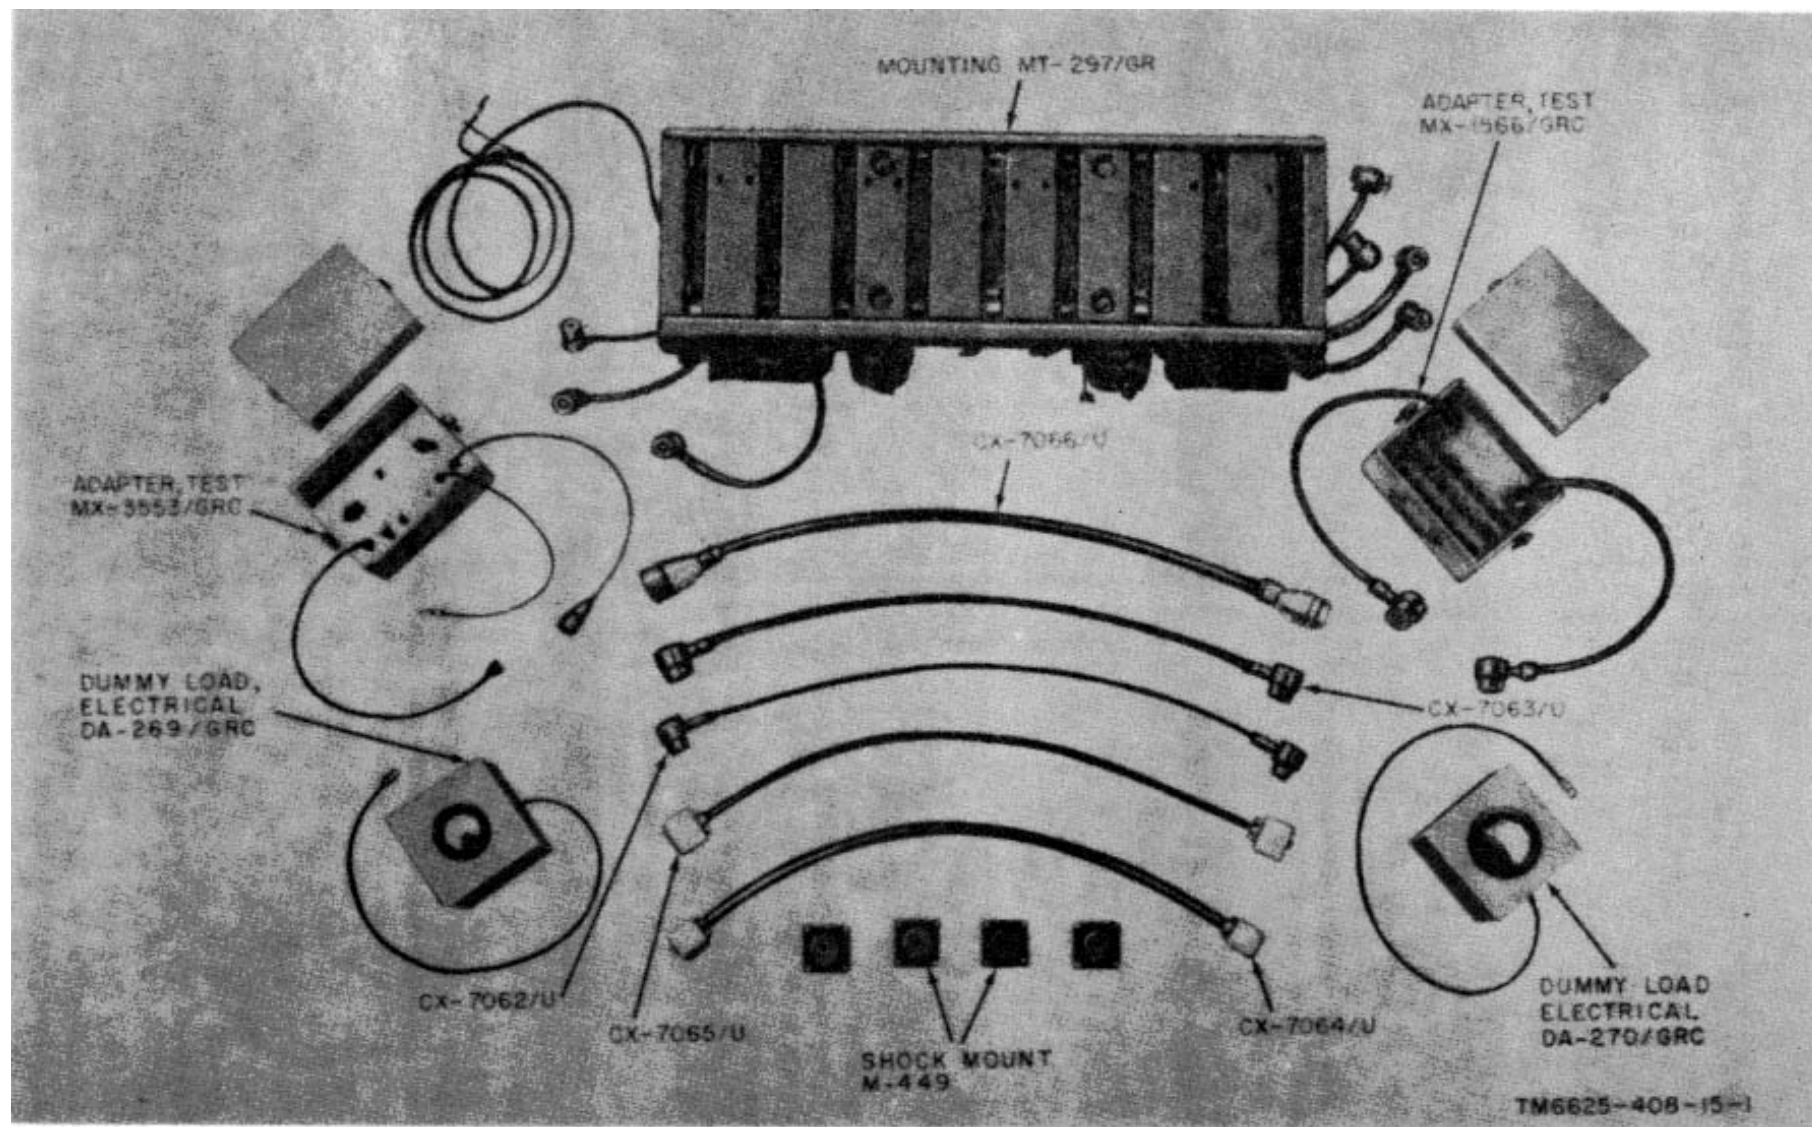

Figure 1. Test Facilities Kit, Radio MK-153/GRC.
a. Test Facility Kit, Radio MK-163/GRC (fig. 1) contains maintenance equipment required to facilitate third echelon and higher maintenance on components of Radio Sets AN/ GRC-3 through -8, and AN/PRC-8, -9, and -10.
The components of Test Facilities Kit, Radio MK-153/GRC are listed in the basic issue items list (app. III) and are illustrated in figure 1.